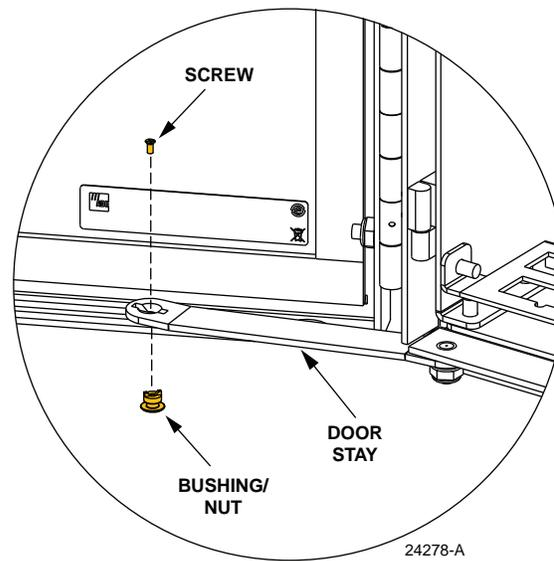

Figure 24. Door Linkage Hardware
3. Use a Phillips screwdriver to remove the screw and bushing/nut that secures the door stay to the bottom of the door as shown in Figure 24. Save the screw and bushing/nut for reuse.